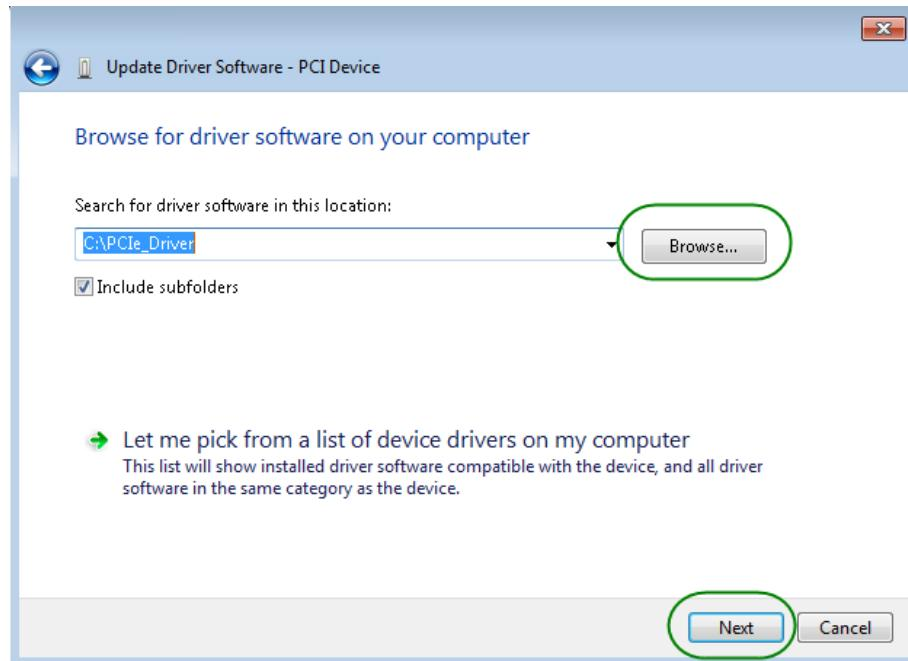

Figure 7-5 Browse for driver software on your computer
7. In the **Browse for driver software on your computer** dialog, click the **Browse** button to specify the folder where altera_pcie_din_driver.inf is located, as shown in Figure 7-5. Click the **Next** button.